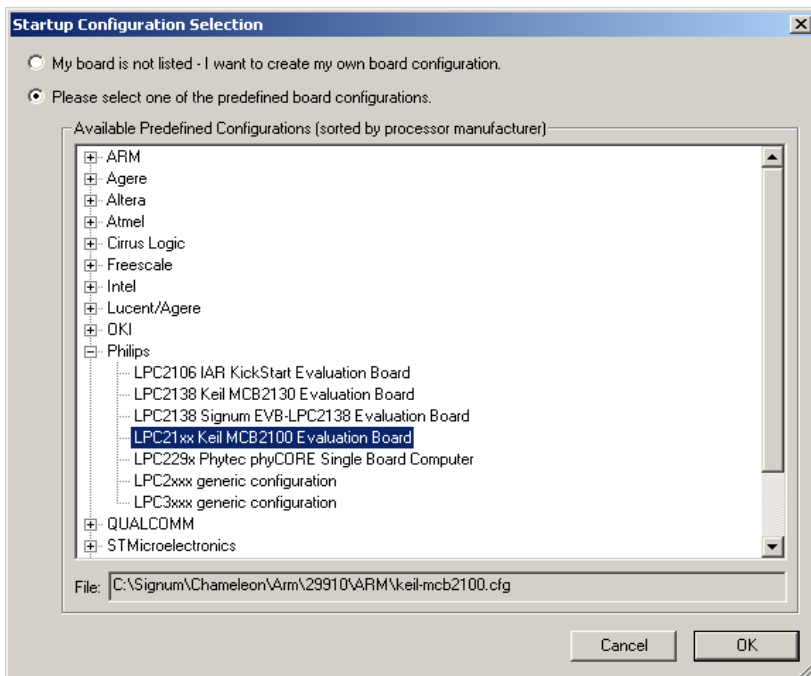

FIGURE 41 Selecting the Keil MCB2100 Evaluation Board startup configuration file
2. Next, in the Startup Configuration Selection window under Philips select the LPC21xx Keil MCB2100 Evaluation Board and click **OK** (Figure 41).